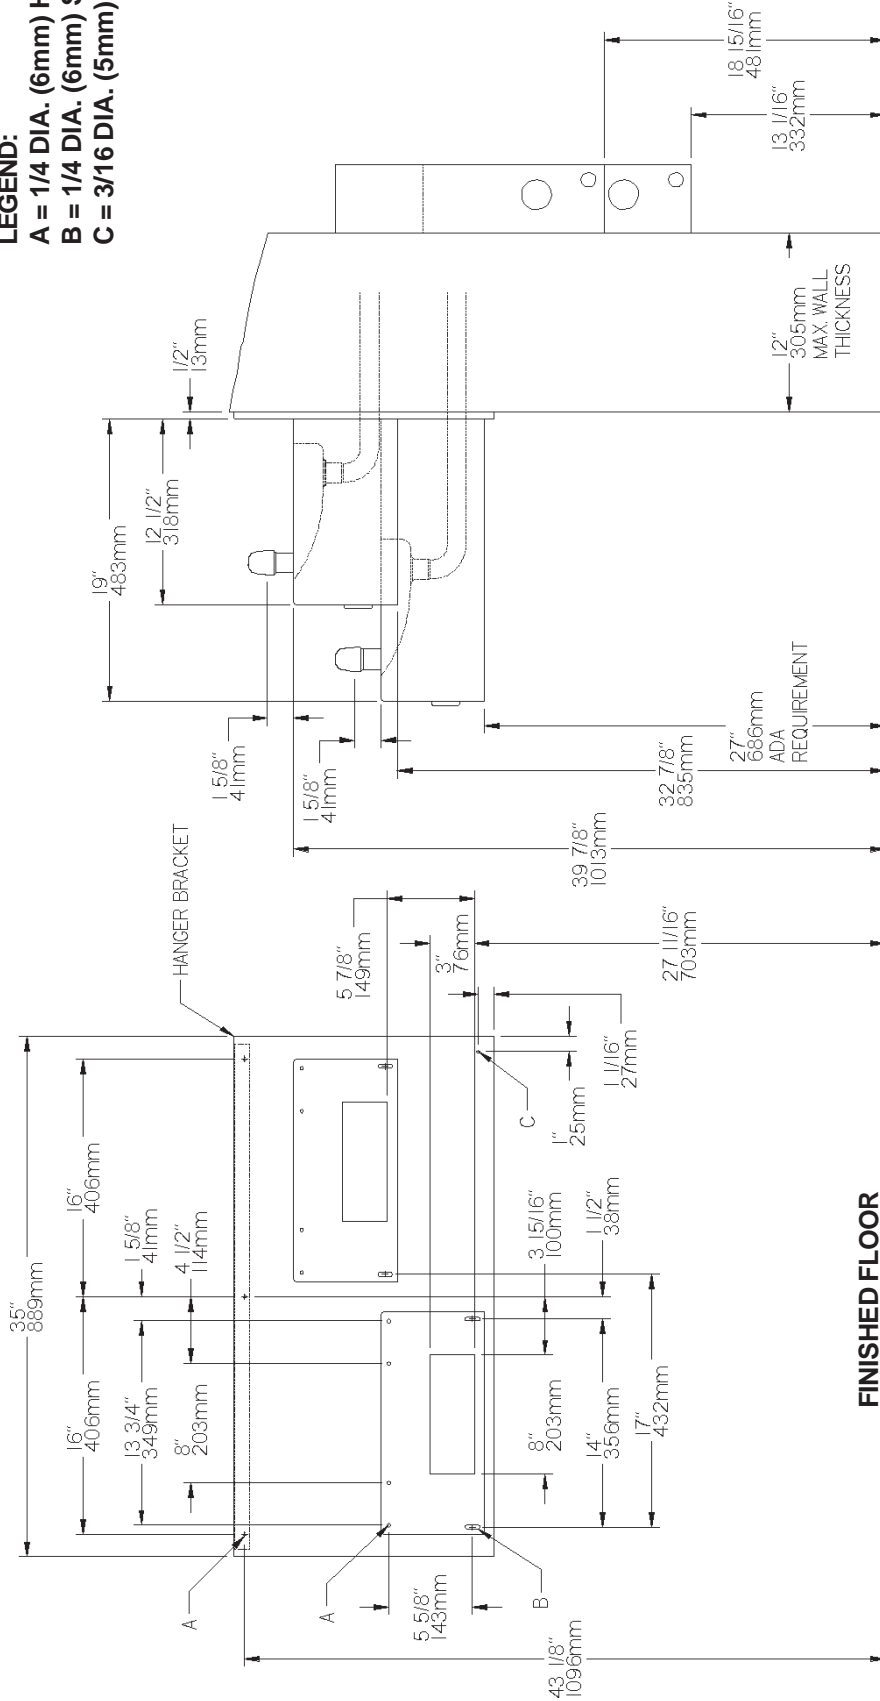

FIG. 3
- 1. Wall should already be framed for the fountain using dimensions shown in Fig. 3.** Show dimensions pertain to installation location. These dimensions are required for compliance with ANSI Standard A117.1. (and ADA) (Framing shown for reference only).
- 2. Attach the hanger bracket and panel mounting bracket(s) to the wall as shown in Fig. 3.** Use bolts and flat washers (not provided). Tighten securely.